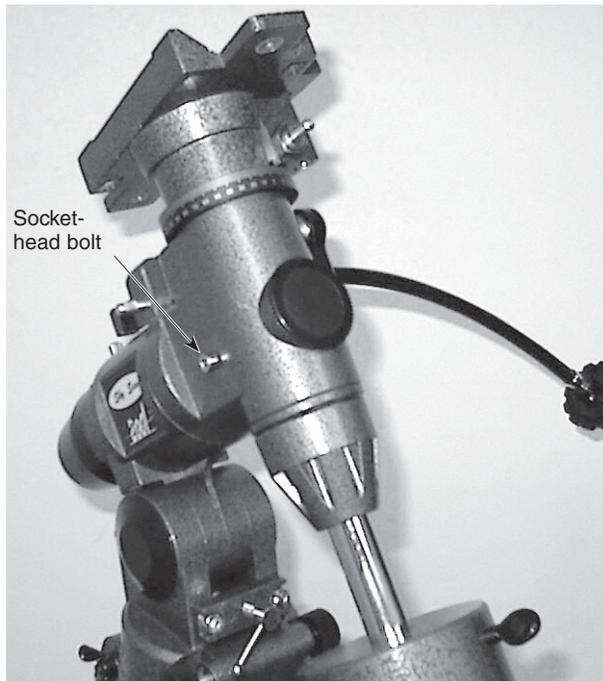

Figure 3
3. Use the provided 4mm Allen wrench to remove the socket-head bolt on the left side of the mount (**Figure 3**).